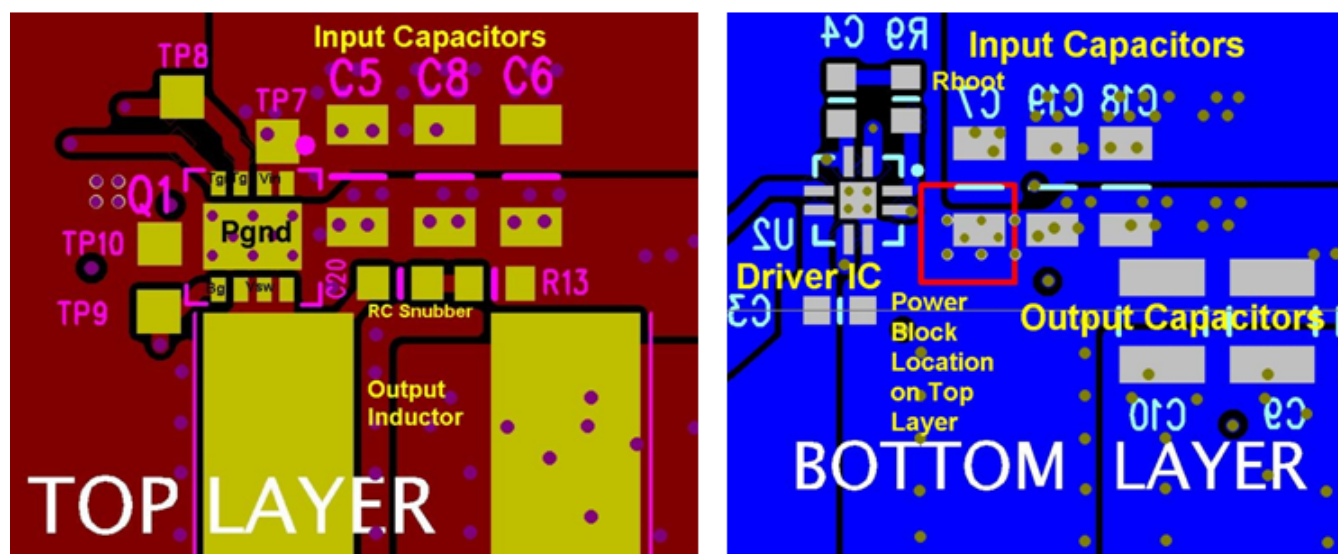

Figure 21. Recommended PCB Layout (Top Down)
- The placement of the input capacitors relative to the power block's VIN and PGND pins should have the highest priority during the component placement routine. It is critical to minimize these node lengths. As such, ceramic input capacitors need to be placed as close as possible to the VIN and PGND pins (see Figure 21). The example in Figure 21 uses 6 × 10-μF ceramic capacitors (TDK part number C3216X5R1C106KT or equivalent). Notice there are ceramic capacitors on both sides of the board with an appropriate amount of vias interconnecting both layers. In terms of priority of placement next to the power block, C5, C7, C19, and C8 should follow in order.
- The switching node of the output inductor should be placed relatively close to the power block VSW pins. Minimizing the node length between these two components will reduce the PCB conduction losses and actually reduce the switching noise level.⁽¹⁾ In the event the switch node waveform exhibits ringing that reaches undesirable levels, the use of a boost resistor or RC snubber can be an effective way to easily reduce the peak ring level. The recommended boost resistor value will range between 1 Ω to 4.7 Ω depending on the output characteristics of driver IC used in conjunction with the power block. The RC snubber values can range from 0.5 Ω to 2.2 Ω for the R and 330 pF to 2200 pF for the C. Please refer to Snubber Circuits: Theory, Design and Application (SLUP100) for more details on how to properly tune the RC snubber values. The RC snubber should be placed as close as possible to the Vsw node and PGND (see Figure 21).⁽¹⁾
- (1) Keong W. Kam, David Pommerenke, "EMI Analysis Methods for Synchronous Buck Converter EMI Root Cause Analysis", University of Missouri – Rolla
- Use the smallest drill size allowed in your design. The example in Figure 21 uses vias with a 10-mil drill hole and a 16-mil capture pad.